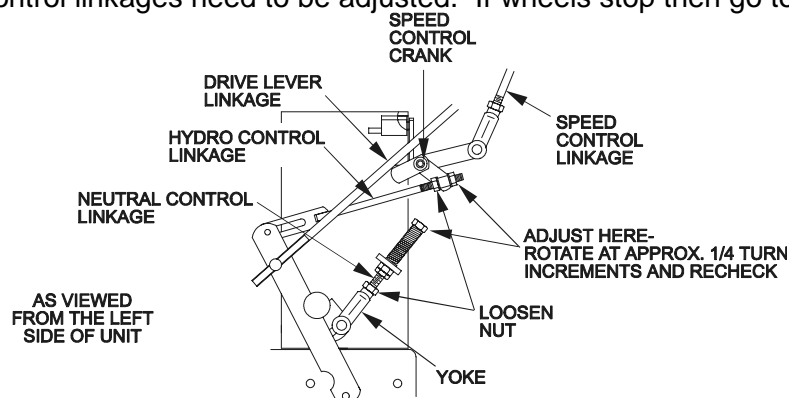

FIGURE 9
4. Loosen the nut against the neutral control linkage yoke (See Figure 9).